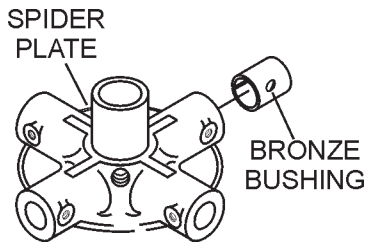

Figure 38. Bronze Bushings
- Examine the bronze trowel arm bushing insert (Figure 38), and clean if necessary. Replace the bushing if out-of-round or worn.